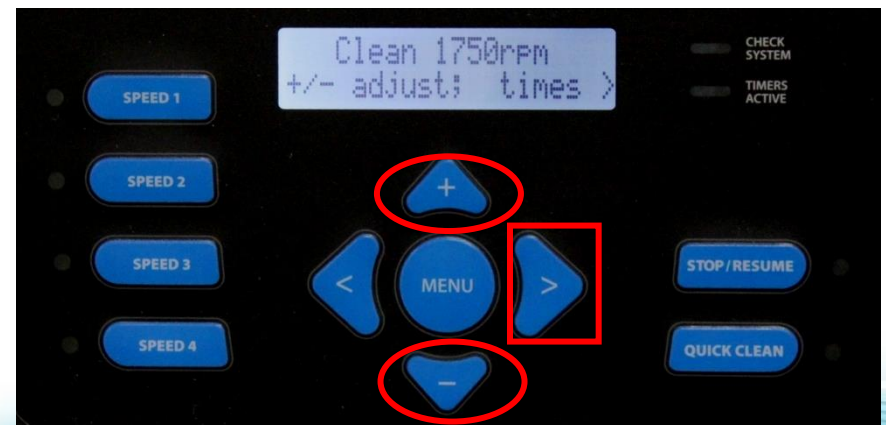

Figure 46
5. This screen will allow you to adjust the speed setting from 600 RPM (17%) to 3450 RPM (100%) by pressing the  &  buttons (fig 46). Press the  button to continue.